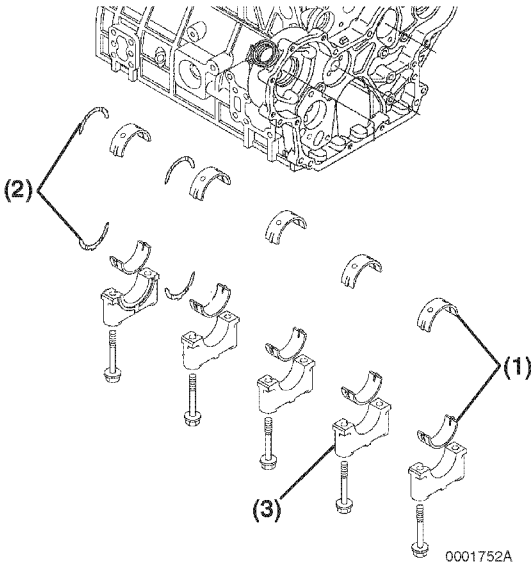

Figure 6-135
2. Reinstall new bearing inserts (**Figure 6-135, (1)**) and thrust bearing (**Figure 6-135, (2)**) in the cylinder block and main bearing caps. Apply a liberal coat of clean engine oil to the bearings and crankshaft journals.
4. Reinstall the main bearing caps (**Figure 6-135, (3)**).